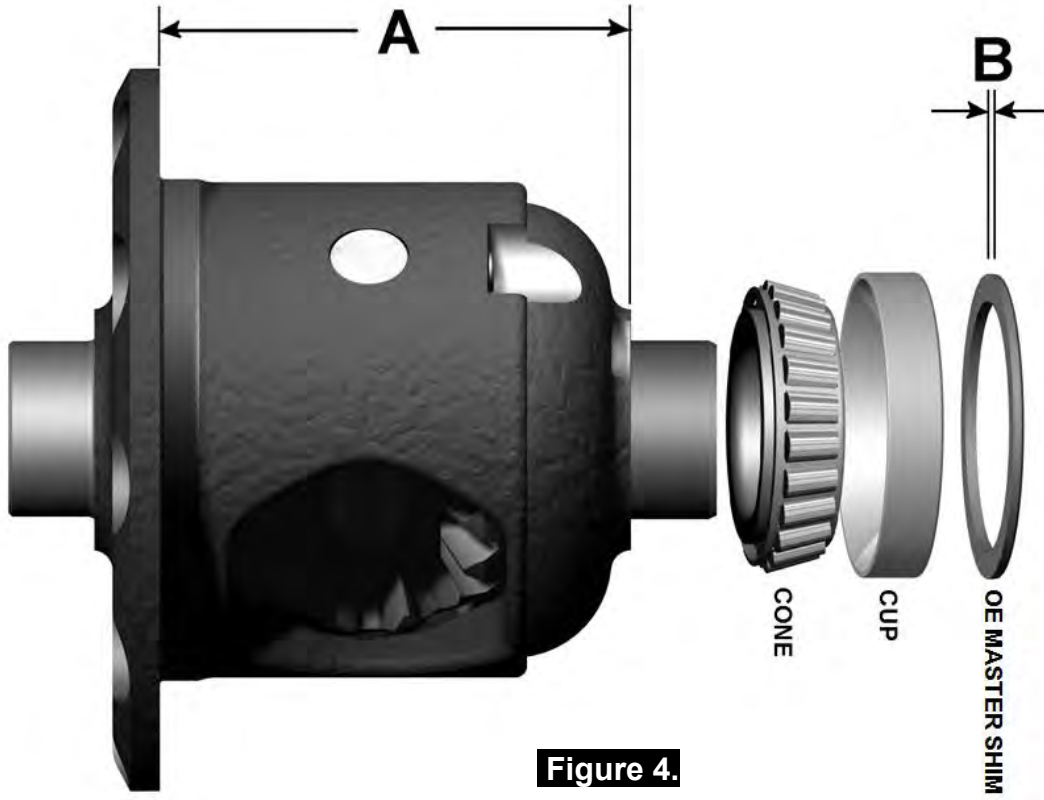

Figure 4.
- Using a caliper or similarly accurate measurement method (i.e., able to take accurate measurements within 0.04mm [0.0015"]), measure the distance from the shoulder of the bearing journal to the ring gear mounting face (shown as 'A' in Figure 4.) and record this measurement as 'A'.
- Measure the thickness of the OE master shim removed from the case side of the differential carrier (shown as 'B' in Figure 4.) and record this measurement as 'B'.